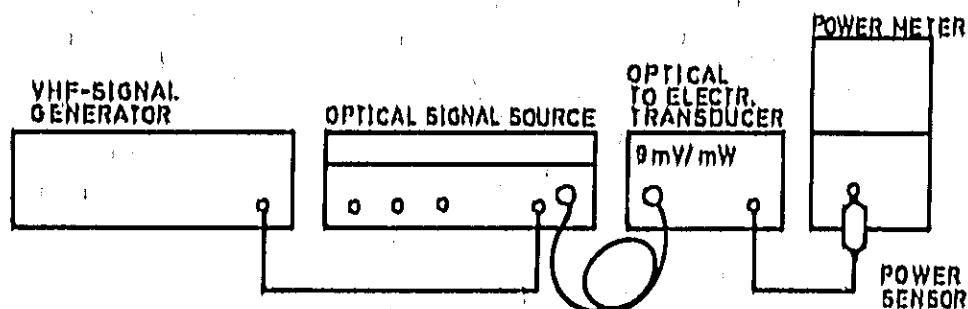

Figure 4-15. Test setup for establishing the flatness of the stimulating source at high frequencies.
- B. Connect the equipment as shown in Figure 4-15.